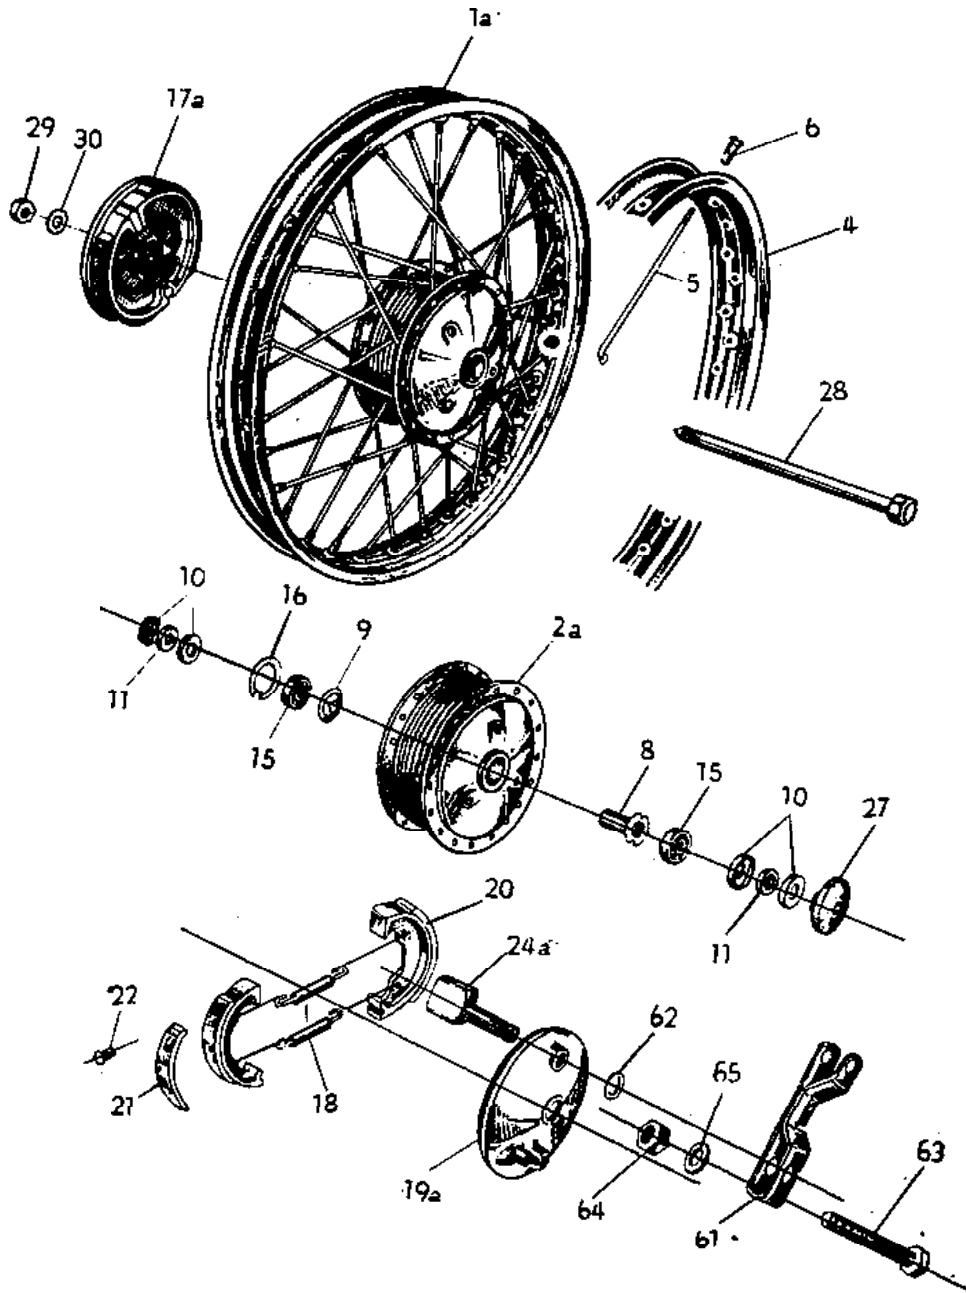

Fig. 4
6. Removing the front wheel (fig. 4)
8. Change of bearing in the wheels (fig. 4)
9. Dismantling the brakes (fig. 4)